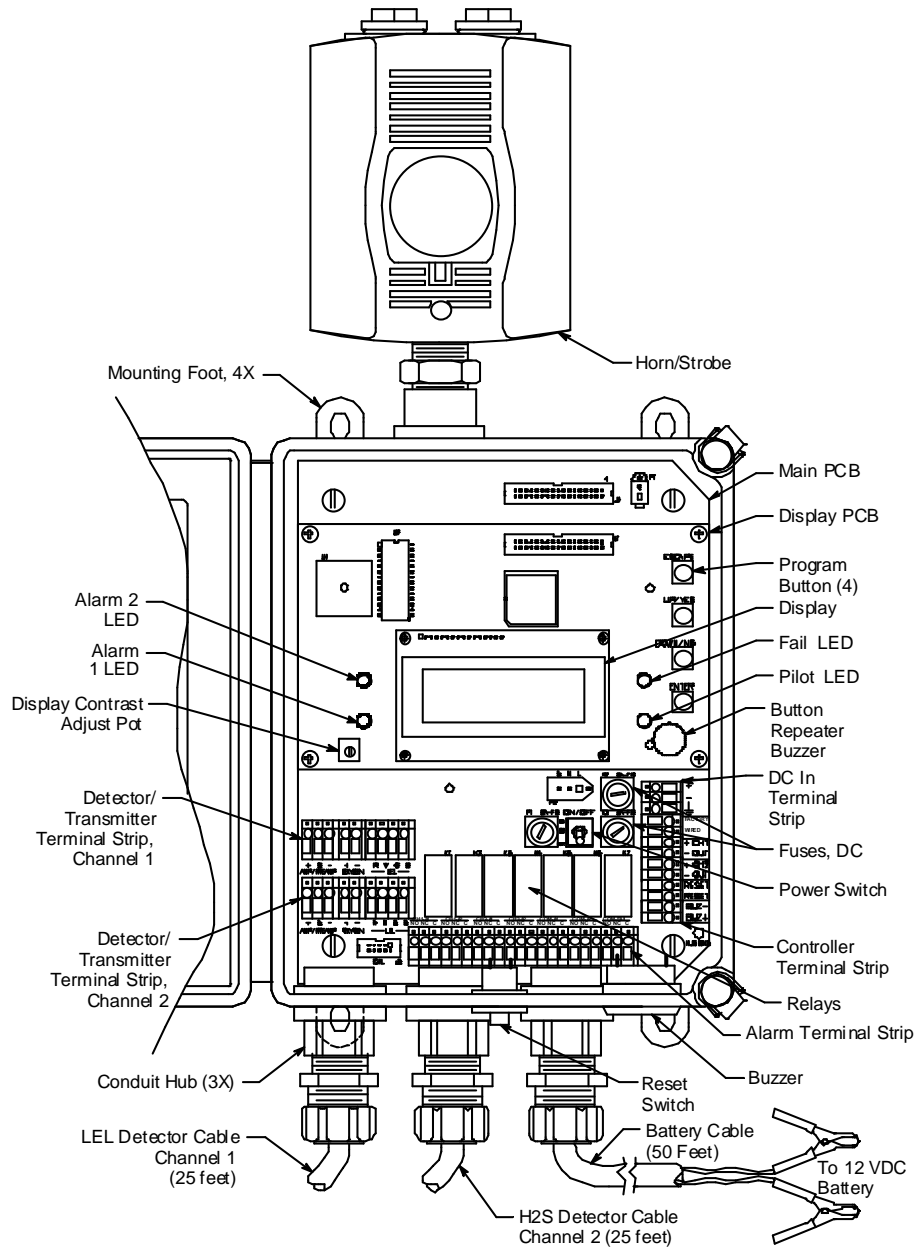

Figure 1. Beacon 200 Rig Monitor Component Location
- **Detector/Transmitter Terminal Strips.** Two detector/transmitter terminal strips are located near the bottom left corner of the main circuit board (see Figure 1). These two 9-point terminal strips facilitate wiring connections to the detectors. Only one detector head at a time may be wired per channel. The top terminal strip is for channel 1 and the bottom terminal strip is for channel 2. The LEL detector is factory wired to the top terminal strip and the H₂S detector is factory wired to the bottom terminal strip.
- **Alarm Terminal Strip.** The alarm terminal strip is located along the bottom edge of the main circuit board (see Figure 1). This 21-point terminal strips facilitates wiring connections to external alarm devices (horn, strobe, etc.). Terminals are provided for individual channels as well as common alarm relay contacts. The horn/strobe is factory wired to this terminal strip.
- **Controller Terminal Strip.** The 10-point controller terminal strip is near the lower right edge of the main circuit board (see Figure 1). The controller terminal strip facilitates various internal and external wiring connections. Table 3 lists the function of each terminal.
- **DC In Terminal Strip.** The DC in terminal strip is a 3-point terminal strip located above the controller terminal strip (see Figure 1). It facilitates wiring from the 12 VDC battery. The 50 foot battery cable is factory wired to this terminal strip. Table 4 lists the function of each terminal.
- **Channel relays.** The four channel relays are above the alarm terminal strip (see Figure 1). These relays are dedicated to specific channels and alarm levels.
- **Common relays.** The three common relays, alarm 1, alarm 2, and fail, are to the left of the controller terminal strip (see Figure 1). These relays are common for both channels.
The power switch is located above the relays and to the left of the DC fuses (see Figure 1). The power switch turns the incoming DC power source on and off at the Rig Monitor. When the switch is up, the power switch is on.